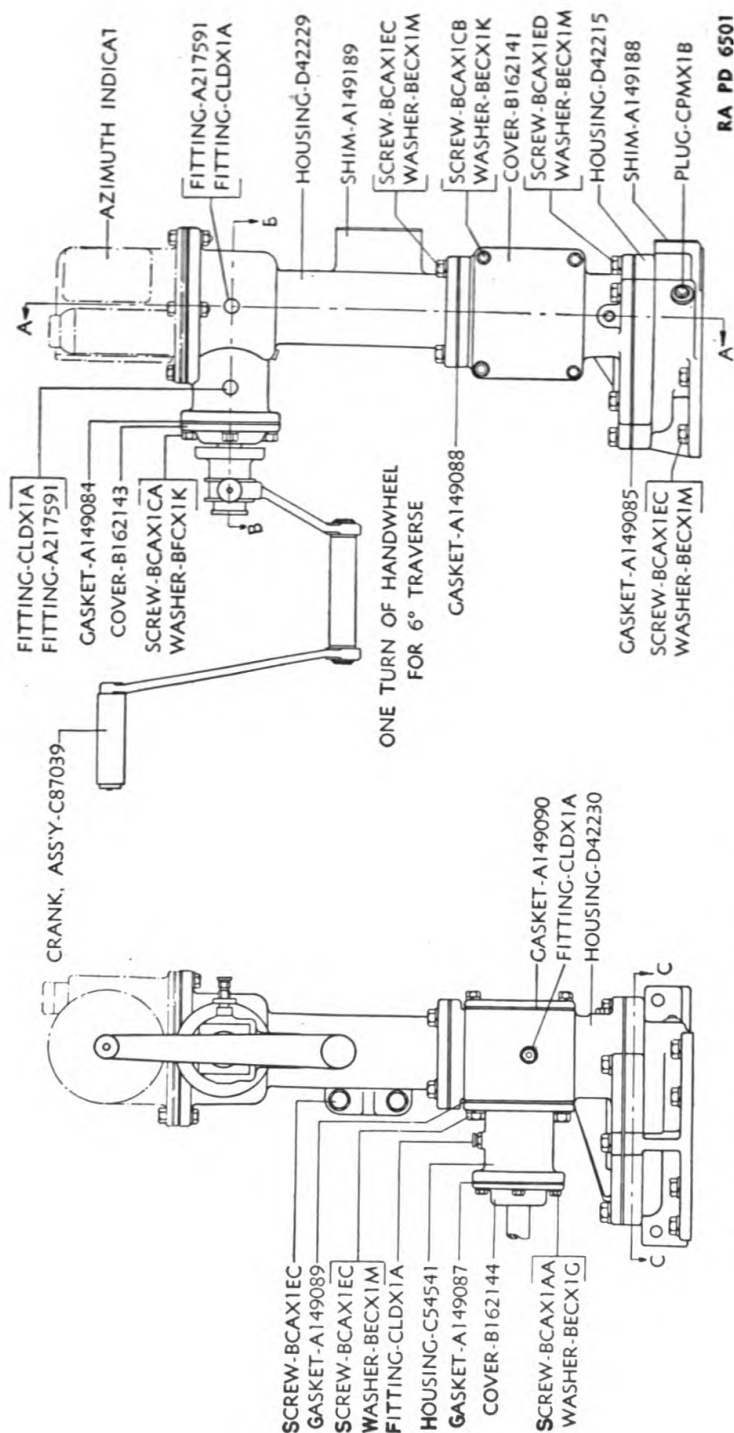

FIGURE 25.—Traversing mechanism assembly, M3A1 carriage (sections shown in fig. 26).
*c. Assembly.*—(1) Assemble in the reverse order of disassembly. Bearings must be set in their sockets evenly and in line so that when a shaft is put through them, the bearings will not be displaced. An even amount of pressure should be applied all around the bearing when assembling to a shaft or casing.
(2) Lubricate as specified in paragraph 51.
**36. Traversing mechanism, M3A1 carriage (figs. 25 and 26).—a. Replacement of parts.**—Backlash of over  $\frac{1}{4}$  turn of the hand-wheels, chattering gears, binding of the mechanism, or failure to traverse, will indicate necessity for repair or replacement of parts.